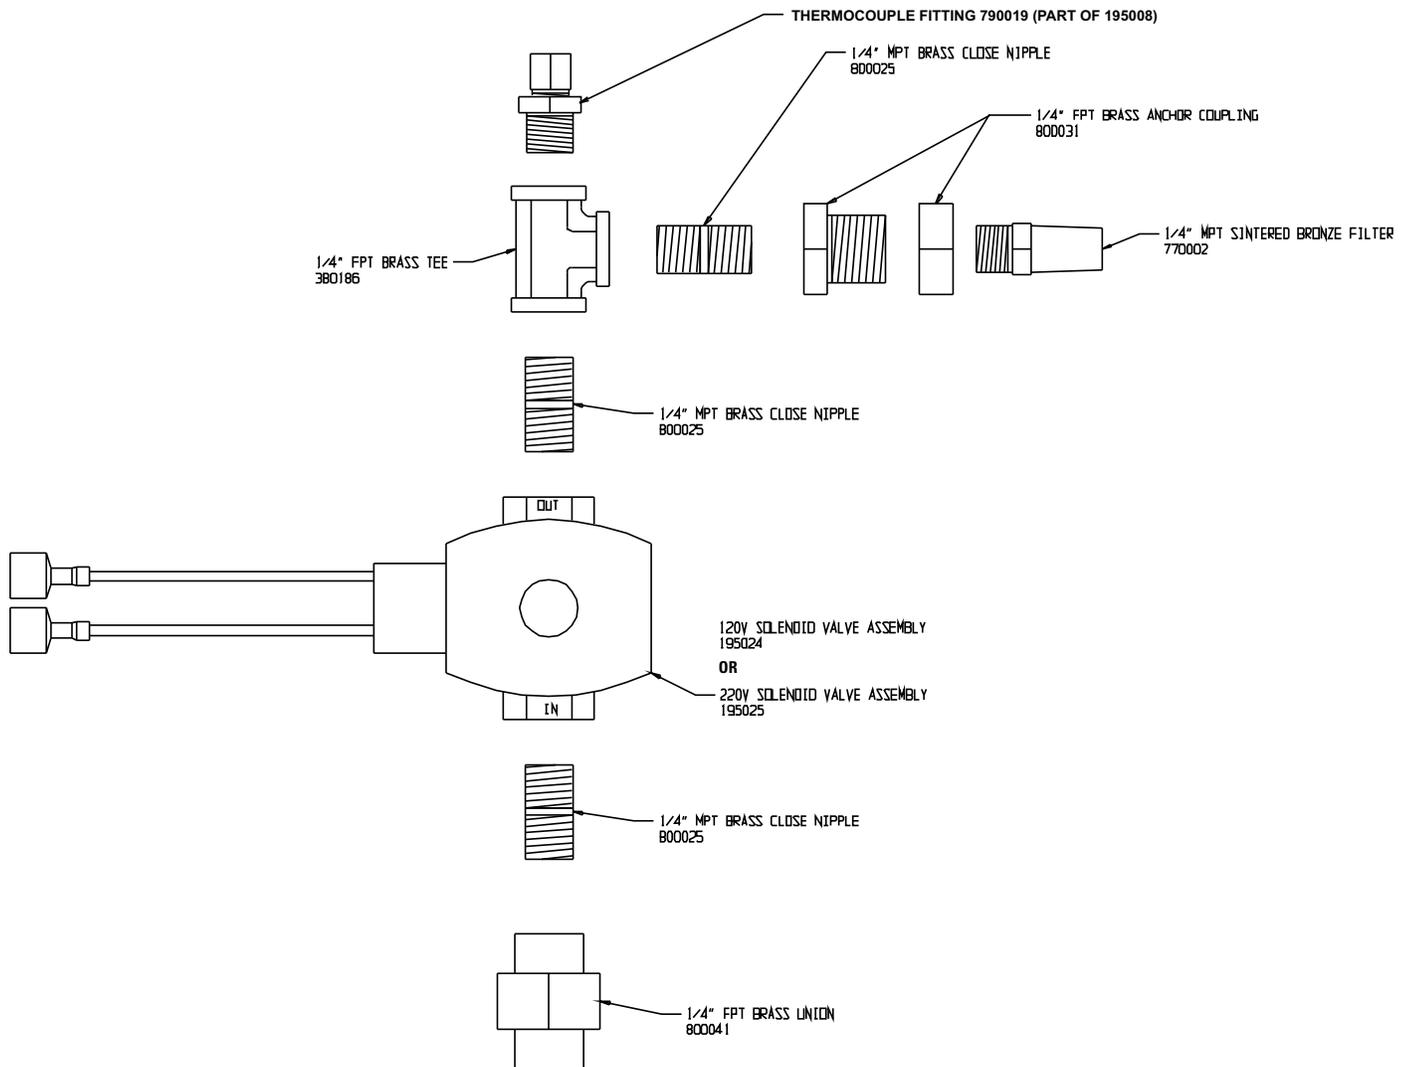

Figure 1. 195019 or 195022 Bypass Assembly
10. Separate the brass union on the bypass assembly (refer to Figure 1) and install the separated piece to the original plumbing assembly where the brass cap was removed.